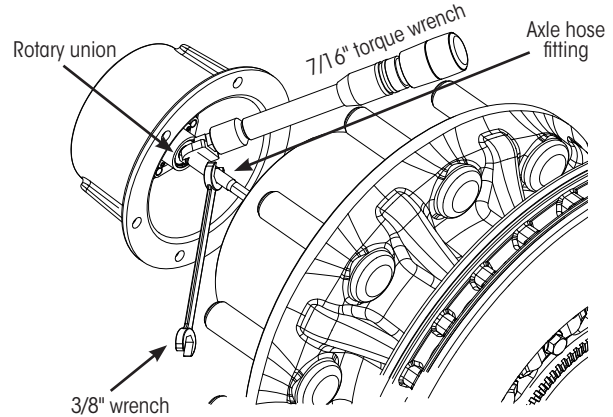

Figure 1: Hubcap to axle hose connection
- 1. Draw** just enough axle hose out from center of spindle to attach axle hose fitting to the rotary union inside the hubcap (Figure 1).
- 4. Using** a 3/8-inch wrench to prevent rotation of the axle hose fitting (Figure 1), **tighten** the rotary union shaft to 50±5 in. lbs. (5.7±0.6 Nm) of torque.